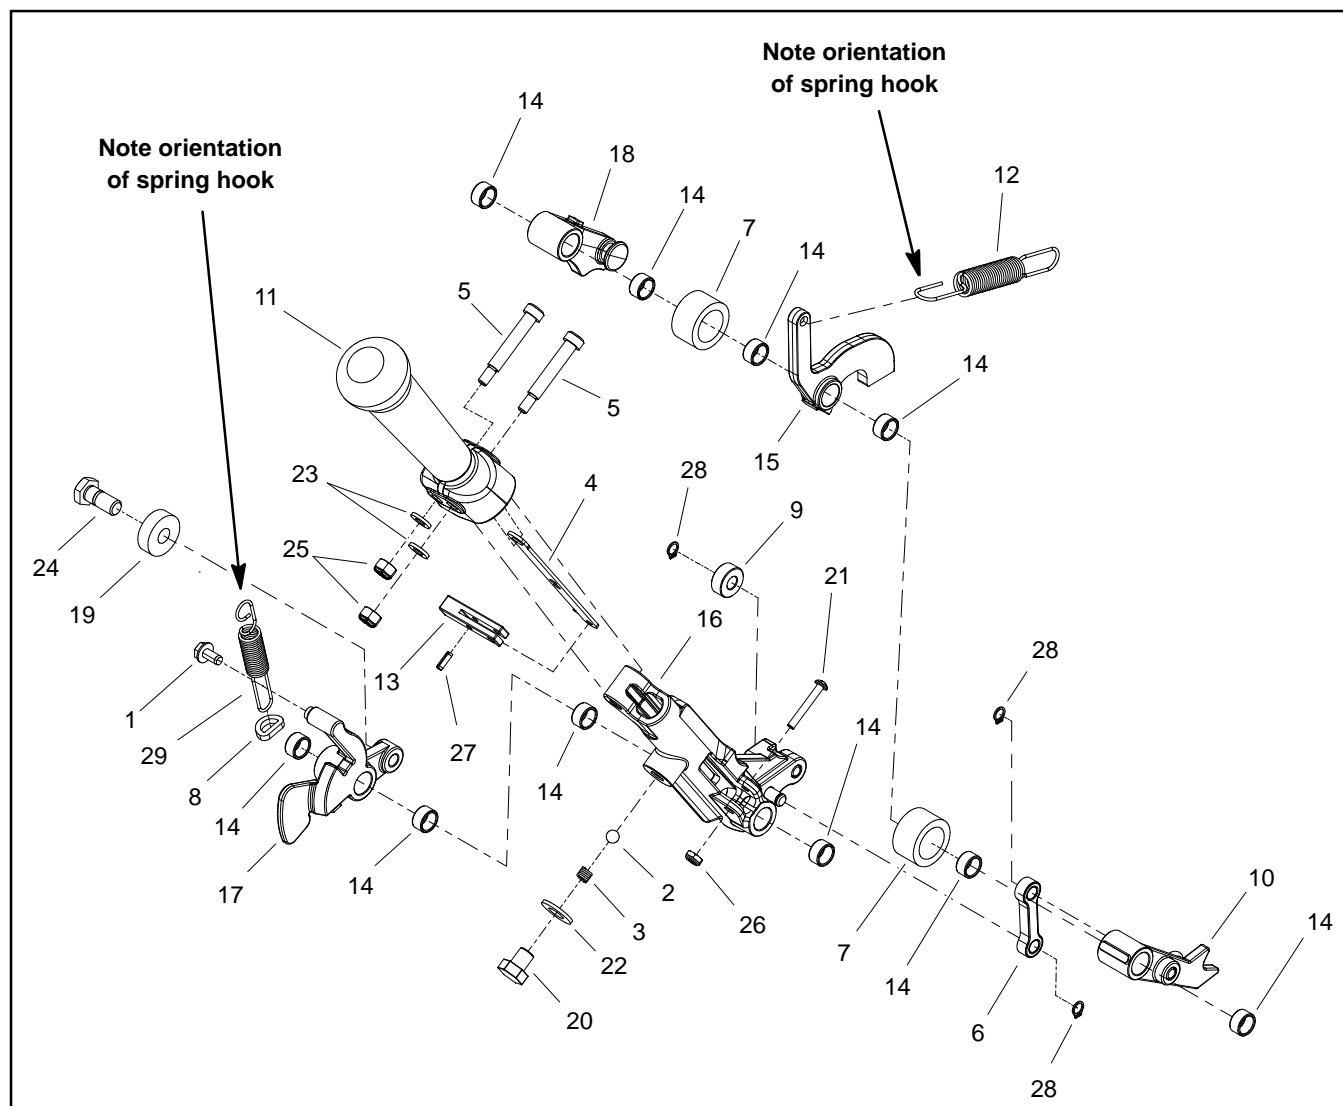
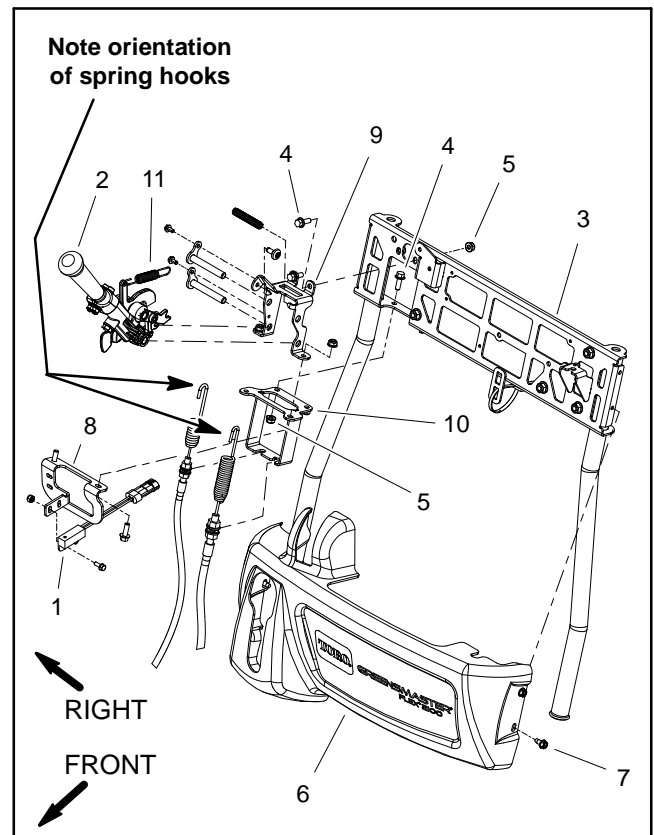
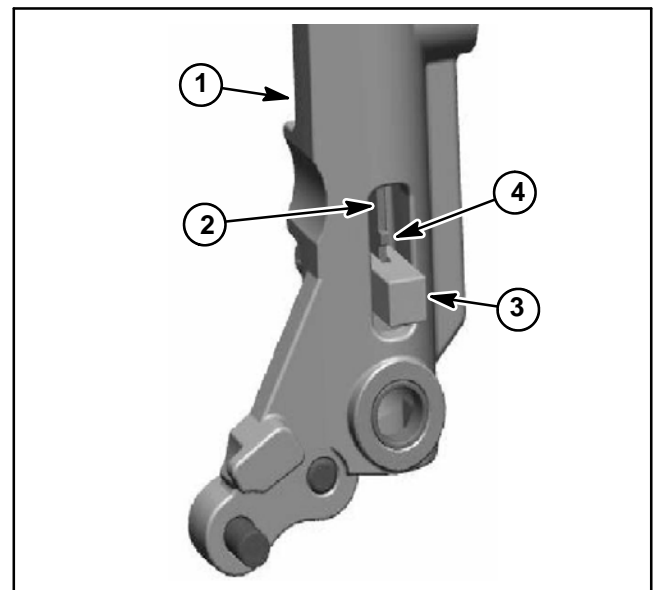

Figure 14
Figure 15
Figure 16
2. Remove console cover from handle to allow access to lever assembly (Fig. 15).
4. Disconnect wire harness connector from traction switch (Fig. 15).
5. Disconnect spring (item 11 in Figure 15) that connects operator presence control with traction lever assembly.
6. Remove four (4) flange head screws and flange nuts that secure lever assembly and brackets to handle. Remove assembly (including lever assembly, shifter bracket, shift mount and switch mount bracket) from handle.
7. Remove two (2) flange head screws and flange nuts that secure switch mount bracket and shift mount to shifter bracket. Separate brackets to allow disassembly of lever assembly.
8. Disassemble lever assembly as necessary using Figures 14 and 15 as guides. Note orientation of end hooks on all springs for assembly purposes.
1. Assemble lever assembly using Figures 14 and 15 as guides.
- A. If shift arm link (item 4 in Figure 14) was removed from transport lever, make sure that tab on shift arm link is positioned toward solid end of latch pin (Fig. 16).
NOTE: One of the mounting holes in both the switch mount bracket and shift mount is elongated to allow for adjustment of clearance between transport lever (item 16 in Figure 14) and reel shift lever (item 17 in Figure 14).
4. Connect spring (item 11 in Figure 15) between traction lever assembly and operator presence control.
5. Connect wire harness connector to traction switch (Fig. 15).